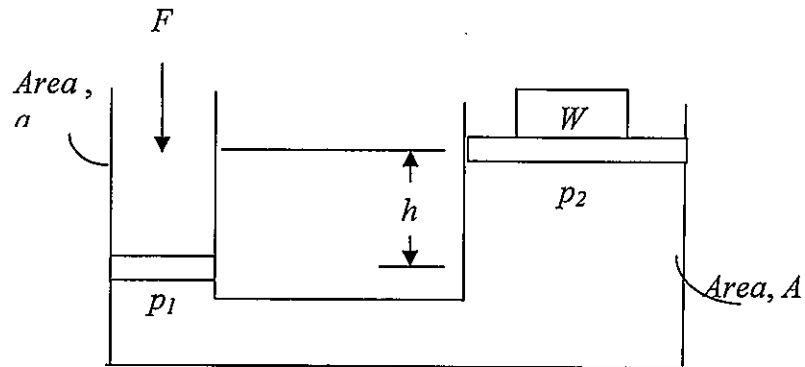

Figure 4/ **Rajah 4**
- d) A force, F of 850 N is applied to the smaller cylinder of a hydraulic jack in **Figure 4**. The diameter of a small cylinder is 2.5 cm while the area, A of a larger cylinder is 80 cm^2 . What load can be lifted on the larger cylinder if the small cylinder is 0.5 m below the larger cylinder? Assume $\rho = 1000 \text{ kg/m}^3$.